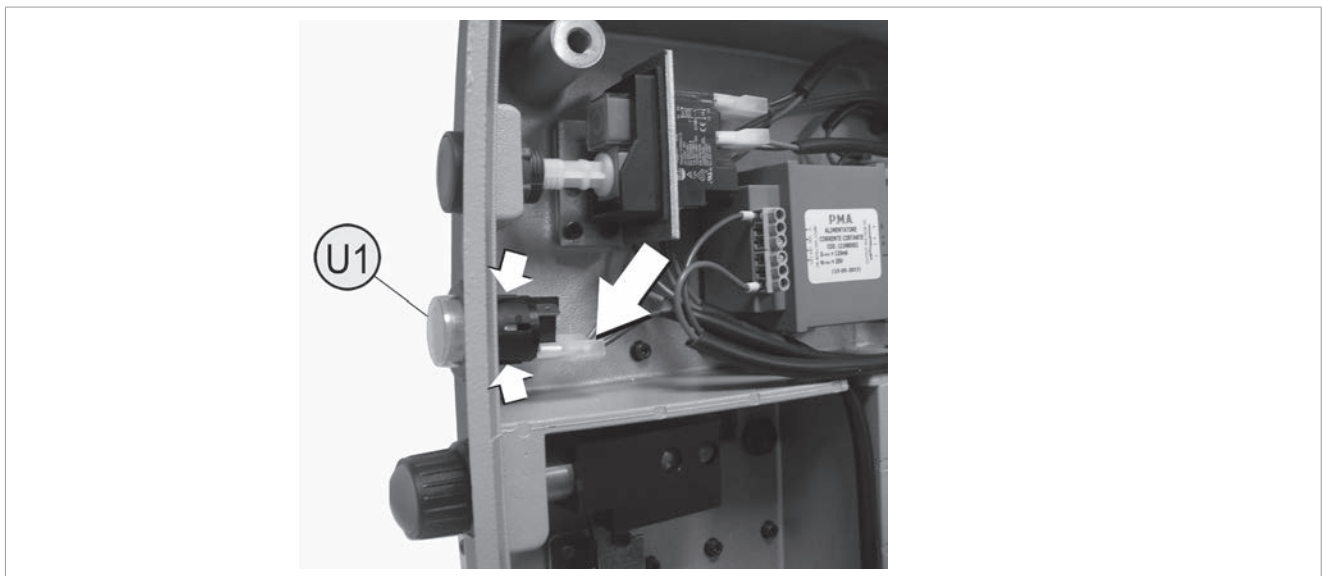

Fig.72
- 2) Disconnect the 2 push button connectors (U1), observing their position carefully (Fig.72).